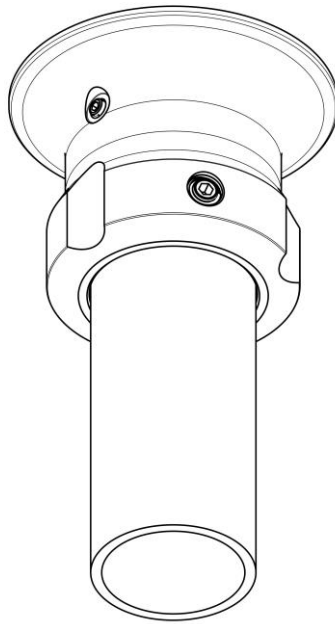
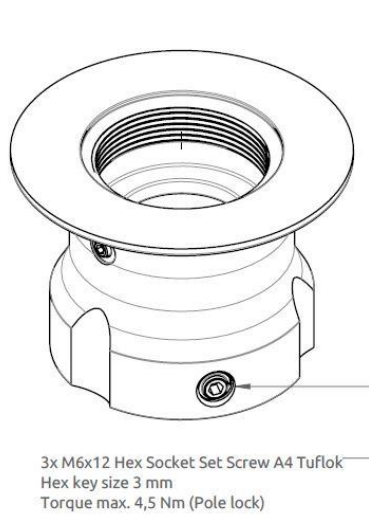
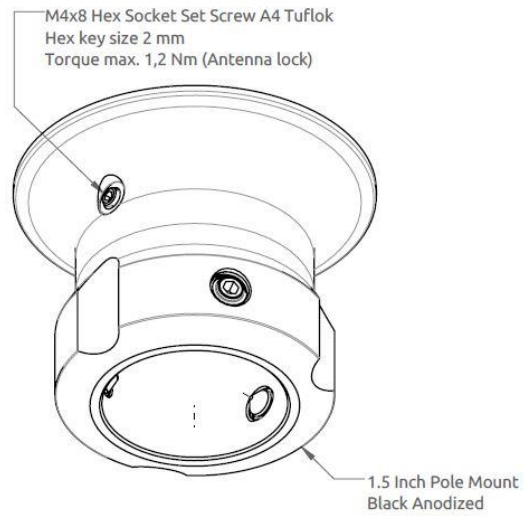

Figure 25: Pole Mount (1.5" tube), Antenna Unit.
Figure 26: Pole Mount (1.5" tube), Antenna Unit.
Figure 27: Pole Mount (1.5" tube), Antenna Unit.
The Pole Mount (1.5" tube), Antenna Unit is illustrated in Figure 25 to Figure 27.
4. Screw the pole mount (clockwise) on the LT-3130 Antenna Unit, and fasten the antenna lock pinot screw, as illustrated in Figure 27 (max torque = 1.2 Nm)
5. The LT-3130 Antenna Unit and pole mount can now be mounted on the 1.5" tube. Fasten the three pole lock pinot screws, as illustrated in Figure 26 (max torque = 4.5 Nm)
The Pole Mount (1.5" tube), Antenna Unit only support a 1.5" tube. The pinot screws (antenna and pole lock) torques are specified in Figure 26 and Figure 27. The pole mount is made of milled aluminum (anodized). The pinot screws are made of A4 stainless steel.